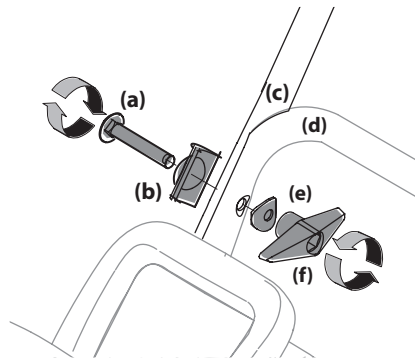

Figure 2-10
- Insert a carriage screw (a) from the outside through a handle tab (b), the upper (c) and lower handles (d), a saddle washer (e) and into the wing knob (f). Repeat on the other side. Tighten the wing knobs (f) on each side of the handle. Refer to Figure 2-10.